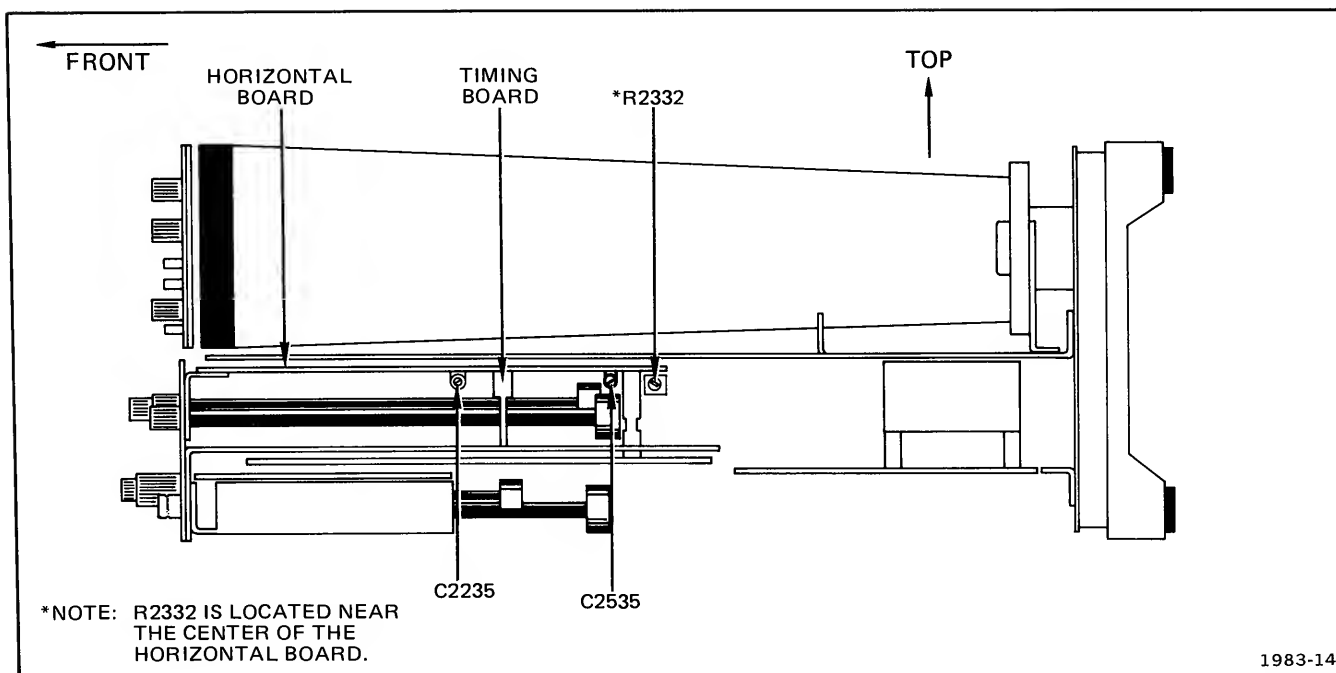

Fig. 4-5. Time Base adjustment locations (on right side of instrument).
b. ADJUST—Horiz Cal, R2332 (see Fig. 4-5), and horizontal POSITION control for 1 marker per division over center 8 divisions.
b. ADJUST—C2235 (see Fig. 4-5), and horizontal POSITION control for 1 marker per division over center 8 divisions.